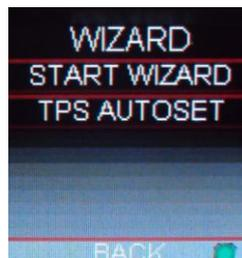

Figure 2
2. Select "Start Wizard" (Fig 2).